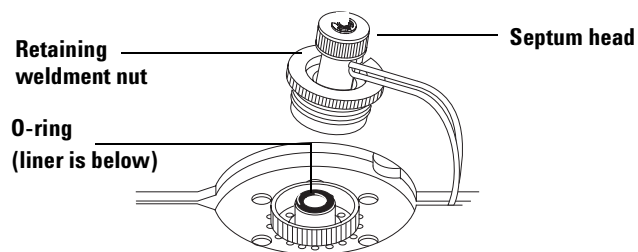

Figure 57 Exploded view of the upper part of the inlet
- 3 Loosen the retaining weldment nut and lift the septum head from the inlet body. Be careful to avoid breaking the liner. See Figure 57.